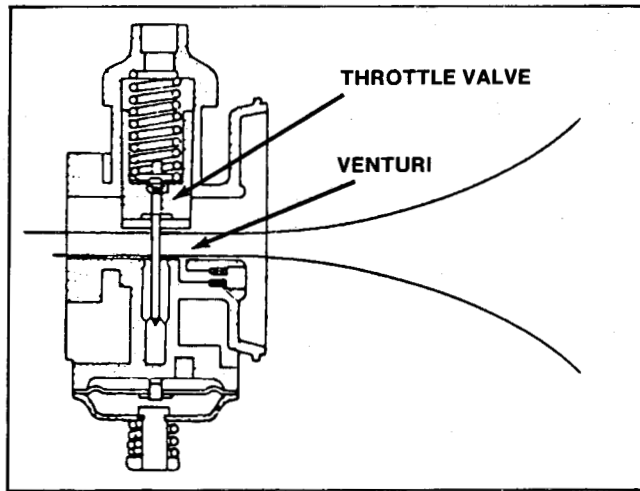

Figure 13
4. The venturi is the portion of a carburetor throat that is narrowed in order to increase air velocity. On the TC1000 carburetor, the venturi size is variable and is controlled by the position of the throttle valve. See Fig. 13.